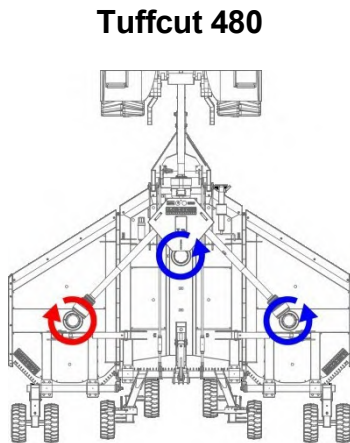

Figure 1.8
This instruction manual refers to relative rotational directions. The terms clockwise and anti-clockwise are defined by looking down at the machine from above, with the tractor being at the front; see Figure 1.8/1.9. To eliminate confusion the following definitions will be used throughout this operator's manual.
In order to create a consistent and quality cut and through-flow of material through and out of the machine, Tuffcut machines have anti-clockwise and clockwise rotating rotors which are in turn fitted with left-hand (LH) and right-hand (RH) blades. The rotation direction of each of the rotors is stated in Figure 1.8 for the Tuffcut 480 and Figure 1.9 for the Tuffcut 650/830.